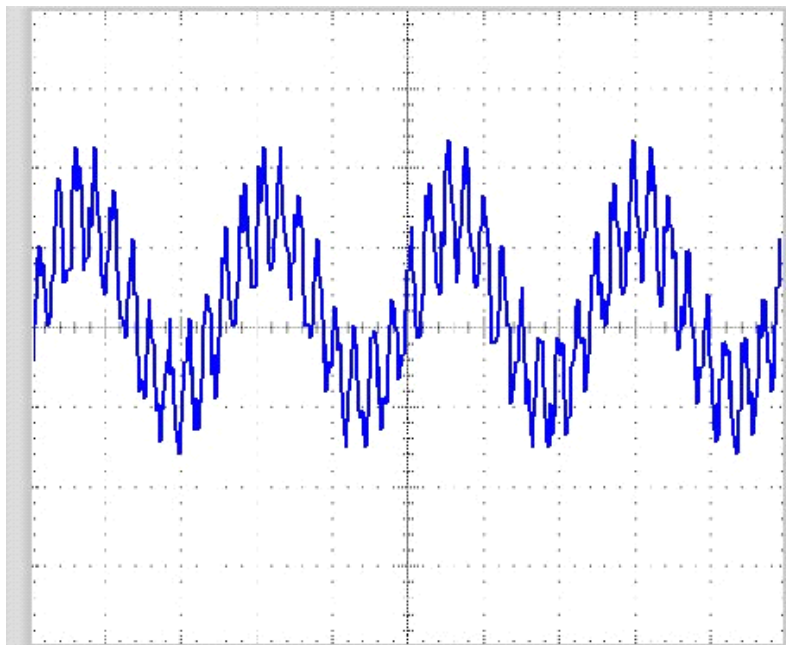

Figure 3-12:
1. Write a program to generate a signal like the one shown in Figure 3-12 below. The primary frequency is 800 Hz and the secondary is 8 kHz. You may need to adjust your Horizontal and Vertical dials to get a similar signal. Give it a try!